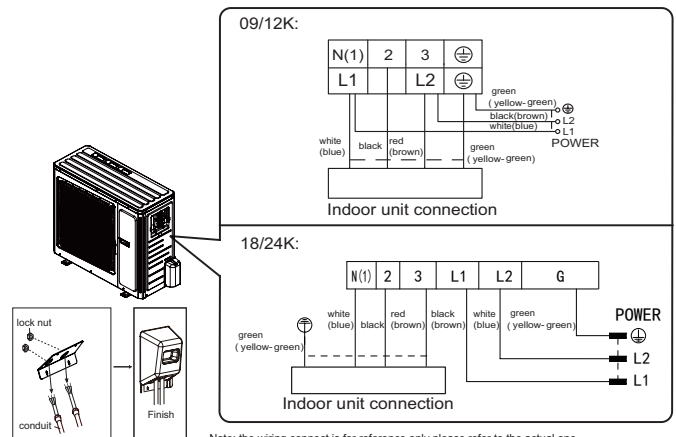

Fig.23
- (1) Let the connection wire sleeve go through the two holes of retaining plate ; tighten the connection joint of sleeve and retaining plate; remove the wire clip; connect the power connection wire and power cord to the wiring terminal according to the color; fix them with screws.
- (2) Fix the power connection wire and power cord with wire clip.
- (3) Fix the stopper on handle with screw.(As show in Fig.23)